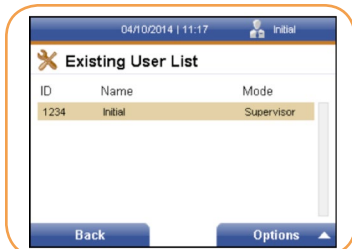

FIGURE 29
1. Use the [↓] key to cursor down to the Manage Users menu item. Press the right soft key to select it. The Existing User List screen is displayed (Figure 29).